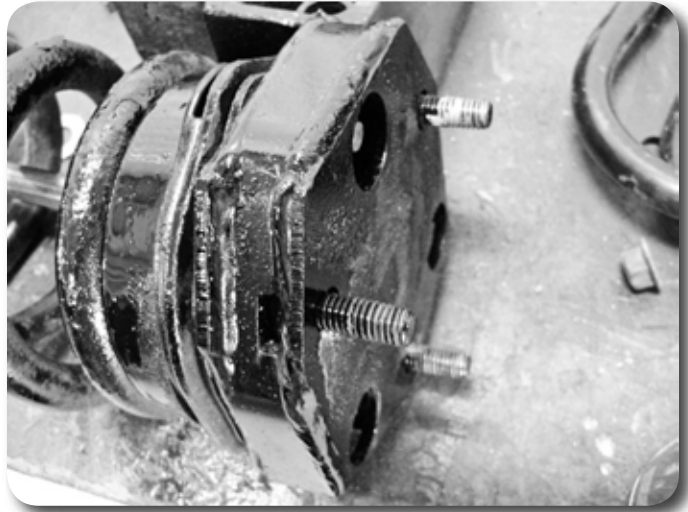

Figure 4
12. Install the new top spacer with factory nuts onto the strut assembly, the strut assembly can only be installed one way. It may be necessary to use a chrome socket for clearance in the access holes. Tighten to 40 ft-lbs. Fig 4